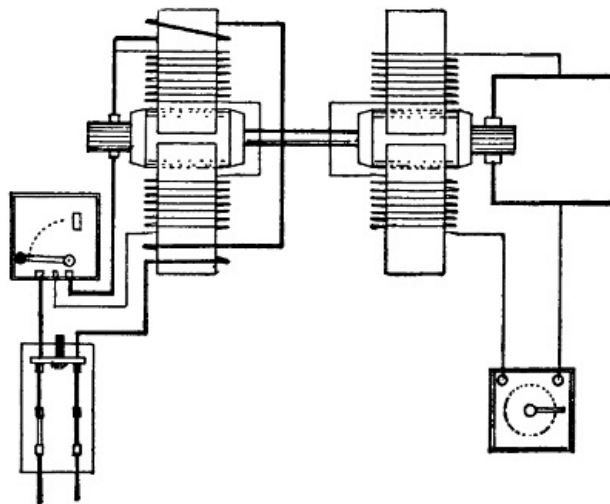

FIGURE 141.
*Motor-Generator Control.*—The proper voltage for the operation of arc lamps can be obtained by the use of motor-generators. A motor-generator is a generator driven by a motor, the two armatures being placed upon one shaft or belted together. The motor may be driven by a current of any voltage desired. The diagram of such an outfit for direct current is shown in Figure 141. This type of machine is used, as a rule, only where the supply voltage is much higher than that used at the arc. Resistance must be used at each arc lamp.